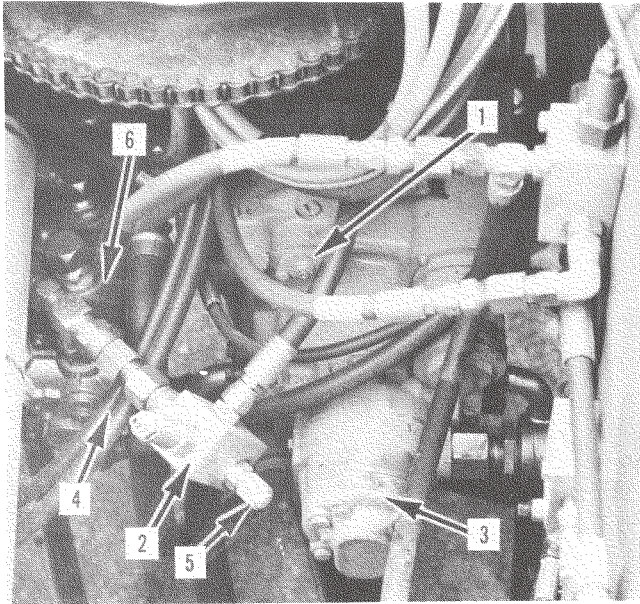

Figure 31. Rear Pump
10. The pump stroker (Fig. 31) null or zero should now be centered using the following procedure. This step only needs to be done if the pump or stroker has been changed.